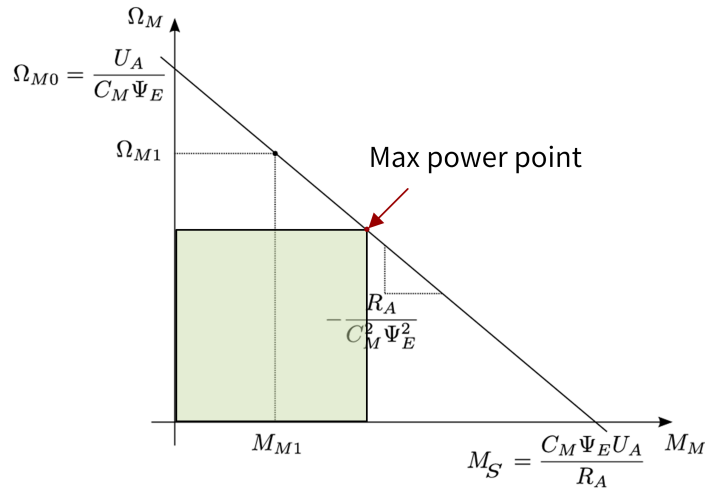

Figure 1.3: Operating point of maximum mechanical power output
- 3.) * The operating point of maximum mechanical power output is shown in Figure 1.3.